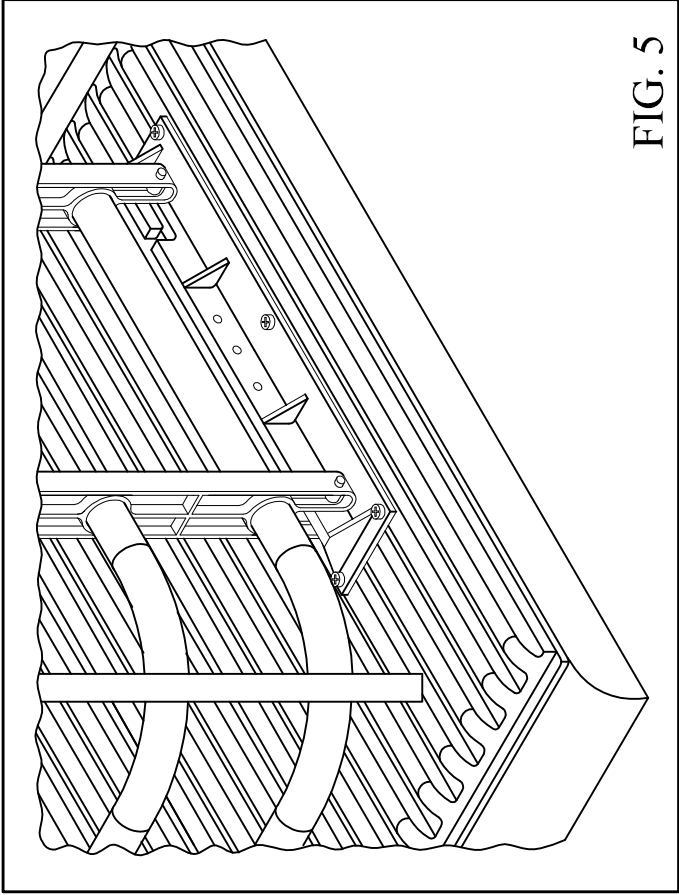

FIG. 5
9. **See Fig 5:** Installing the mounting bracket on the tailgate **with a tailgate protector**:
- a. If your tailgate protector has ridges as shown in Fig 5, try to position the mounting brackets so the holes are supported by the ridges. **Do not install the mounting bracket where it might interfere with the operation of the internal tailgate latch mechanism.**